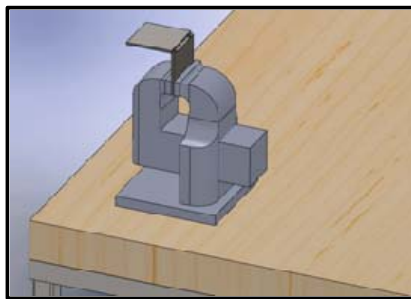

Figure 7: Clamp the piece into the vice
- A. Place the tacked coupons into the **Bench Vice** as shown in Figure 7. Use the **Hammer** to gently tap the unclamped coupon in the direction needed to make the two coupons perpendicular together. Check position with a **Combination Square**.
- B. If the coupons are not tacked together correctly and cannot be pounded into the correct position. Use the set up shown in Figure 7 and break the tacks by pounding the coupons until they break.